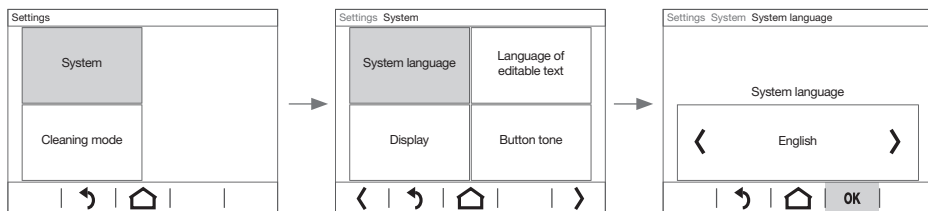

Figure 5: Example of setting the system language
The display changes to another page where you must select once again, or it changes directly to the setting of the parameter (Figure 5).
- With **-/+** decrease/increase the parameter value, with **>/<** scroll to a preset value (Figure 5) or with **ON** / **OFF** activate/deactivate the parameter (Table 1).